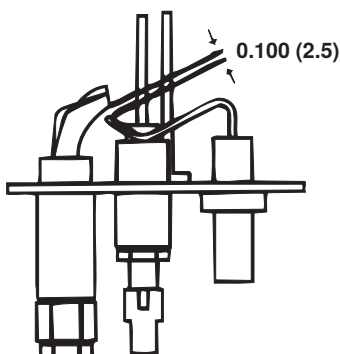

Figure 42. Pilot Assembly Spark Gap
4. Check the spark gap (see Figure 42), which should be maintained to 0.100 inch.